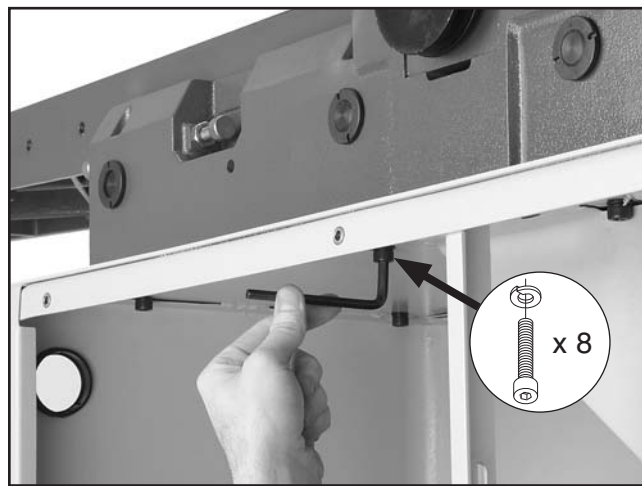

Figure 11. Securing the jointer assembly to the stand.
15. Attach the jointer assembly to the stand with the (8) M8-1.25 x 25 cap screws and 8mm lock washers, as shown in **Figure 11**.